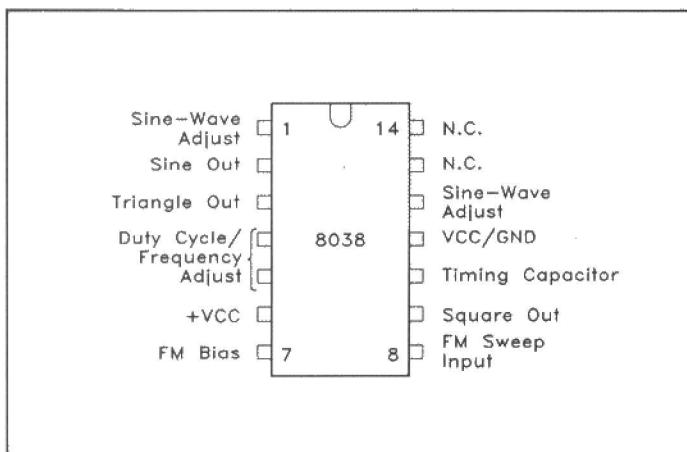
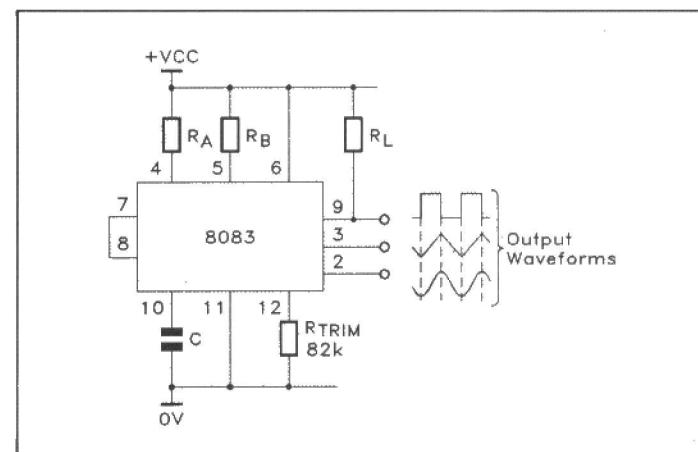

Figure 4. Outline and pin notations of the ICL8038 waveform generator IC.
Figure 5. Basic fixed-frequency triangle/sine/square waveform generator.
Figure 4 shows the outline and pin notations of the 8038, and Figure 5 shows the basic way of using it as a fixed-frequency triangle/sine/square waveform generator that is powered via a single-ended supply. Note in this circuit that the pin-7 FM BIAS terminal is shorted to the pin-8 FM SWEEP INPUT terminal, and in this case the 8038's operating frequency is determined by the values of C, R_A and R_B . In fact these two resistors set the operating values for a pair of internal, constant-current generators that alternately charge and discharge the main timing capacitor (C).
The basic action of the Figure 5 circuit is such that, alternately, C is charged linearly at a rate set by R_A until the voltage reaches two thirds $+V_{CC}$, at which point a switching action occurs and C starts to discharge linearly at a rate set by R_B , until the voltage drops to one third V_{CC} . Here another switching action takes place and the whole process is repeated. R_A and R_B can have any values in the range 1k to 1M; if these components have equal values (R) the circuit operates at a frequency of $0.3/(RC)$ and generates a symmetrical linear triangle waveform with a Pk-to-Pk amplitude of $0.33 \times V_{CC}$ on pin-3, and a square wave with a Pk-to-Pk value of V_{CC} on pin-9 (which is loaded by R_L). The triangle waveform is also fed to an internal triangle-to-sine converter, which
The 8038 is shown using single ended supplies in the circuits of Figures 5 to 7, and in such cases the three output